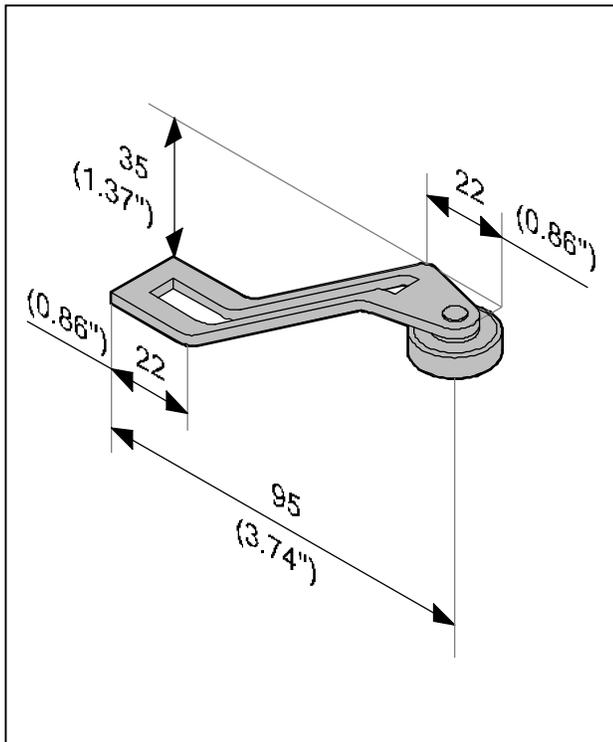

Figure 47: New shape of roller arm VH 10793025
- 6) New arm VH 10793025 replaces the old, straight arm (see the dimensions in Figure 47 as a reference).